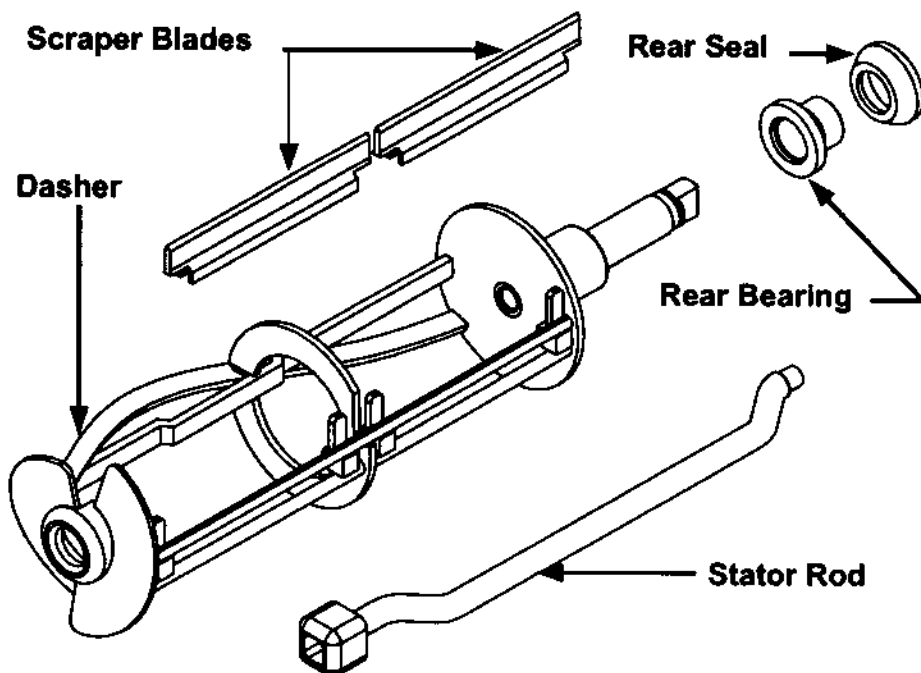

Fig. 24
c. Install the rear bearing and seal assembly so that the rubber portion is facing the rear wall of the freezing cylinder and the white plastic bearing will rest against the shoulder on the dasher. (Fig. 24).